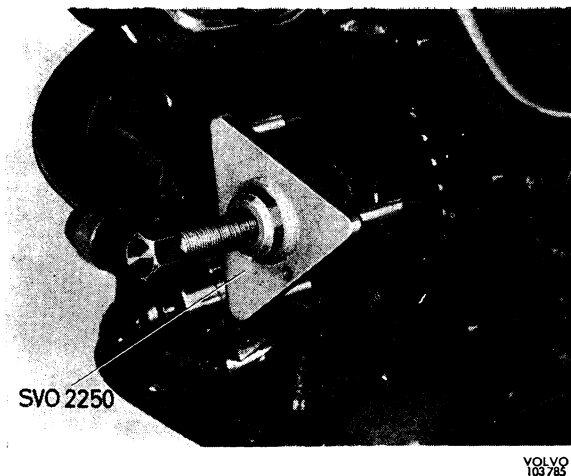

Fig. 2-38. Removing camshaft gear
4. Remove the camshaft nut and pull off the gear by using puller SVO 2250, see Fig. 2-38.